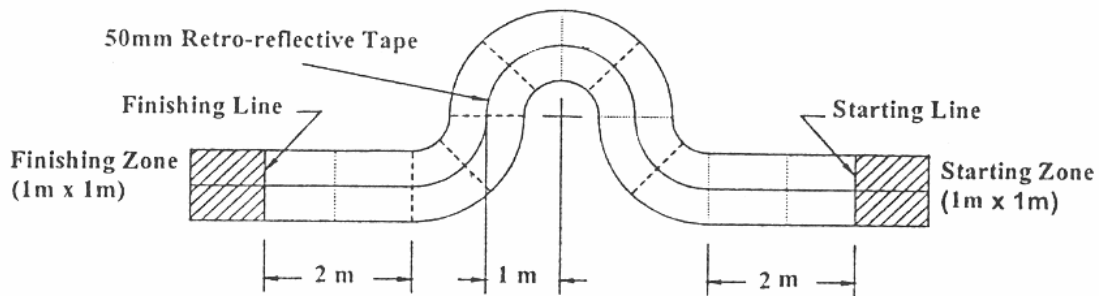

Fig.1 - Sample Legged Robot Race Track
- 3.1 The race-track is a raised platform of a fixed width of 1 m and a maximum length of approximately **10 m** (not inclusive of starting zone and finishing zone.) It comprises of straight and circular sections connected together to make up the entire length. The circular section consists of a one-eighth circular path (45-degree sector) with radius of 1m (with respect to the longitudinal centerline of the path). The straight segment consists of 1 m straight paths. There will be a 1 m **Starting Zone** and a 1 m **Finishing Zone** at the start and the end of the race-track. As an example, Fig.1 shows a top view of a competition race-track. It consists of 4 straight segments (A) (excluding the Starting and Finishing Zones) and 8 circular segments (B). The segments are at different elevations of 50 mm or 100 mm off the ground.